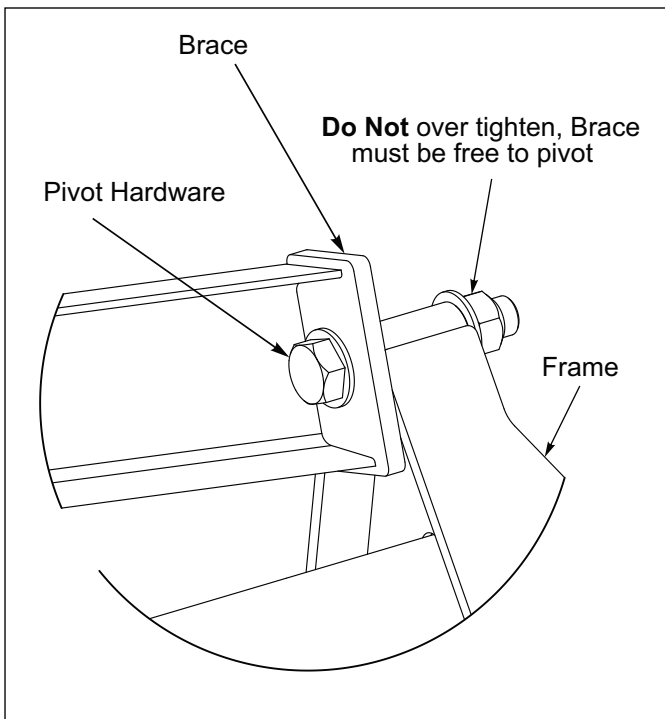

Figure 2-11: Frame Brace Lugs
4. Attach the Brace to the inside of the Frame Brace Lug. Slide Flat Washer onto 1-8 x 5-1/2 Bolt and insert bolt through Brace. Add another Flat Washer and slide Bolt through Frame Brace Lug. Add Flat Washers and Locknut, tighten so that the Frame is free to pivot on the Drawbar. Repeat for the opposite side. **See Figure 2-11.**